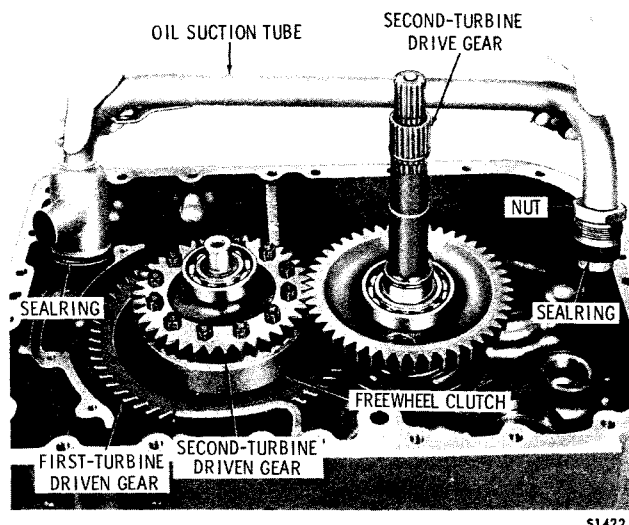

Fig. 5-30. Removing oil suction tube (-3 model)
(1) Remove three self-locking bolts 30 and bolt 31 (A, foldout 8) which retain oil baffle plate 29. Remove the baffle plate.
(2) Unscrew the nut which retains the upper end of the oil suction tube (fig. 5-30). Remove the oil suction tube assembly. Remove the nut and two sealrings from the tube.
(3) Remove the second-turbine drive gear and its attached parts (fig. 5-30). Refer to paragraph 6-7 for rebuild of the second-turbine drive gear.
(4) Remove the first-turbine driven gear, the second-turbine driven gear and freewheel clutch as a unit (fig. 5-30). Refer to paragraph 6-8 for rebuild of the converter driven gears and freewheel clutch.
(5) Remove the forward and reverse sun gear spacer 7 (B, foldout 8).